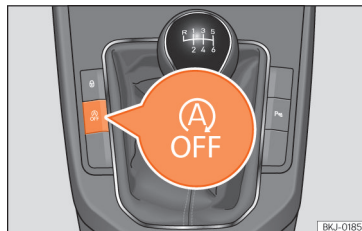

Fig. 132 Centre console: Start-stop system button.
- To manually switch on/off the Start-Stop system, press the  button »» **Fig. 132**.